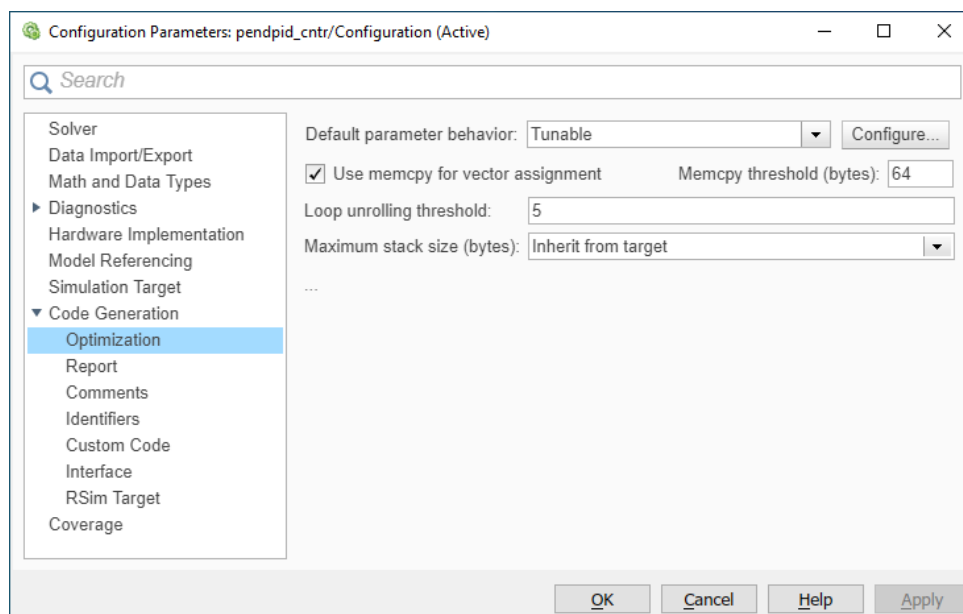

Figure 3.5. Tunable Parameters in Matlab 9.X (R2016-R2020)
11. Then select **Code Generation / Optimization** and set **Default parameter behavior** to **Tunable**, see Figure 3.5. It will give a possibility to change Simulink model parameters on the UM side. If you will not do this the list of Simulink model parameters in UM will be empty.
A simple electromechanical system is considered in this section. Mechanical part of the system consists of a shaft under the influence of active moment M_a and resistance moment M_r , Fig. 3.5. A DC motor that produces the active electromagnetic moment M_a presents electrical part. The resistance moment M_r is supposed to be a time function. A model of a mechanical part of the system without DC motor is situated in the {UM Data}\SAMPLES\TUTORIAL\dc_motor directory. Please, check, if this model is in that directory, otherwise, please, download the model using the link www.universalmechanism.com/download/90/dc_motor.zip